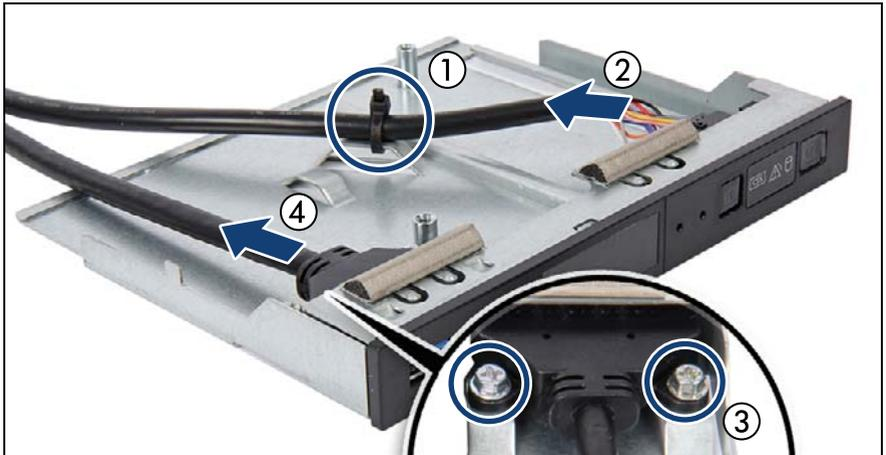

Figure 269: Removing the front panel cables
- ▶ Open the cable tie (1) and remove the front panel cable (2).
- ▶ Remove the two screws (3) and remove the front USB cable (4).
- ▶ Connect the front panel cable to the new front panel module and secure it to the lug with a new cable tie (see figure 269).
- ▶ Connect the front USB cable to the new front panel module and secure it with two screws (see figure 269).